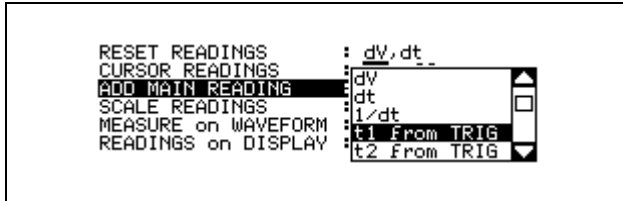

Figure 6-1. Cursor Measurements Window
2. From the second screen page of the More Scope window, highlight ADD MAIN READING. Press  to open the list box. The ADD MAIN READING list box allows you to choose which cursor measurement reading to display. A list of possible measurements is shown in Figure 6-1.